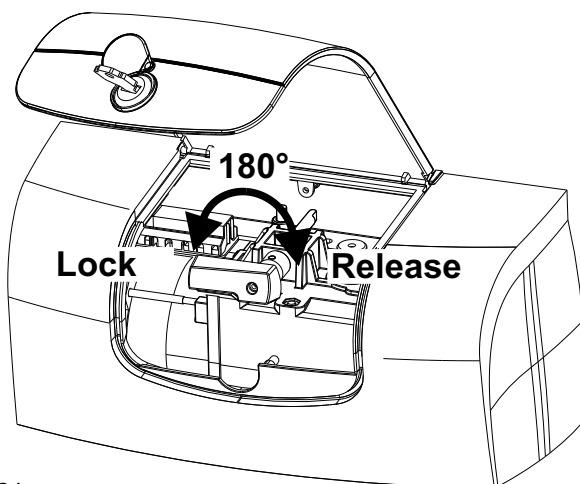

Fig. 24
- Release the motor (see Fig. 24 and 25).
- Turn the red release lever about 180° clockwise (Fig.24).
- Turn the red release lever about 180° counterclockwise (Fig.24).